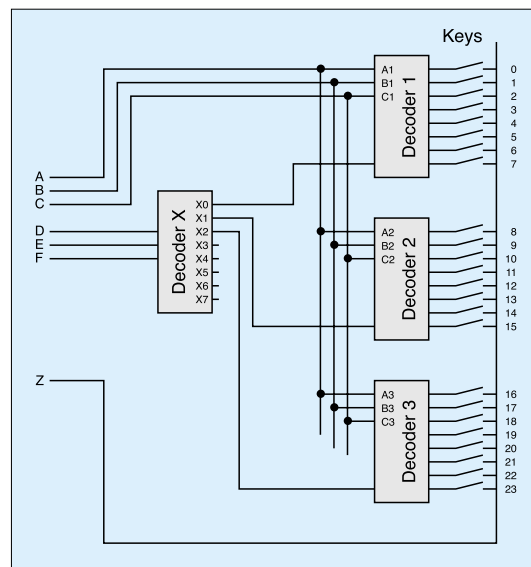

Figure 7: A simple 6-bit polyphonic keyboard decoder.
The answer lies in Figure 7 (see right), which represents the 'digitally scanned polyphonic keyboard' developed in 1973 by Dave Rossum and Scott Wedge of Emu (later renamed Emu Systems).
If you've never studied digital electronics, you might think that you can't possibly understand this diagram, but I assure you that you can. Stick with me for a while longer, and I'll demonstrate how the 24 switches on the far right of Figure 7 can be used as the key contacts of a polyphonic synthesizer. Furthermore, I will perform magic, and show you that the single data line Z can carry all the information needed to tell the instrument which combination of keys is pressed at any given time.
Now let's return to Figure 7. We'll start by considering what happens in Decoder X if you treat the three inputs D, E and F as a binary number. Let's assume that, if the voltage at the input is 'high' (+5V) it represents a 1 and if it is 'low' (0V) it represents a 0. Since there are three lines, we can use them to represent a 3-bit binary number. Table 2 below shows all the possible values.
► 001001. This means that Decoder X enables Decoder 2, and that key 9 is 'high'. The important thing here is that, across the whole keyboard (yes... those switches in Figure 7 represent real keys on a synth keyboard) only key 9 is 'high'. But if you *don't* have key 9 depressed at that moment, the switch is open, and the voltage on the Z line (the output) remains 'low'. If, on the other hand, the key is depressed, the voltage on Z is 'high', and the system detects the status of the pressed key.